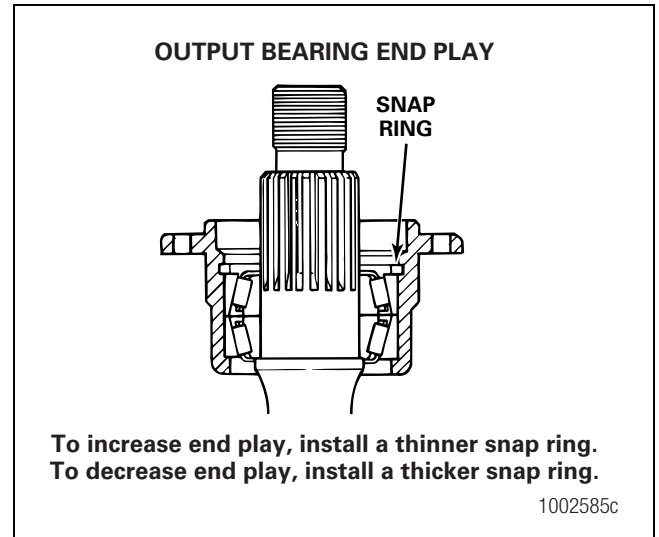

**Figure 5.92**
5. Install a dial indicator so that the base of the indicator is on the mounting flange of the cage. The pointer of the indicator must touch the yoke or flange end of the thru-shaft. Set the dial indicator to ZERO. Figure 5.92.